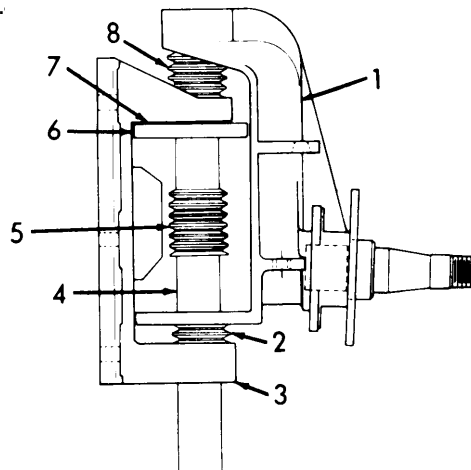

Figure 3-26. Spring Support, Installation.
- (3) Position knuckle (1, Figure 3-26) over installed dust cover (2) and kingpin (4).
- (4) Push kingpin (4) up through bottom hole of knuckle (1). Position dust cover (5) over kingpin.
- (5) Continue pushing kingpin (4) up through spring support assembly (6).
- (6) Install washer (7) between top of spring support assembly (6) and bracket (3).
- (7) Push knuckle (1) toward top of bracket (3) and install dust cover (8).